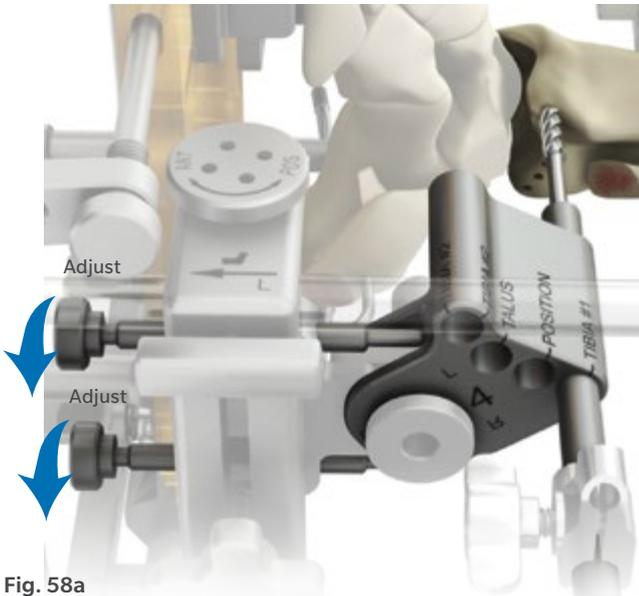

Fig. 58a
- Position the appropriate A/P Stop by turning the knob until the tip of the stop contacts the Cutting Guide (Fig. 58a & 58b).